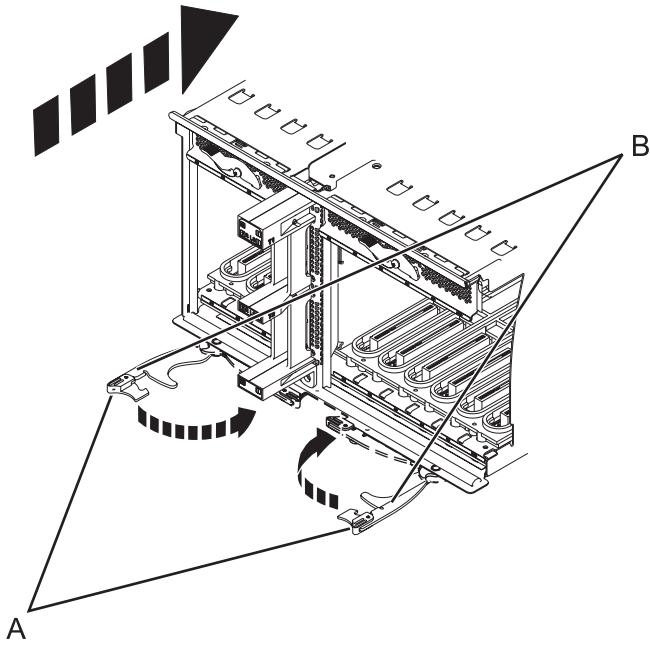

Figure 89. Install the I/O system board on a rack-mounted model
9. Insert the I/O system board firmly into the server, as shown in Figure 89 on page 117.
10. Secure the I/O system board with the locking tabs (A), as shown in Figure 89 on page 117.